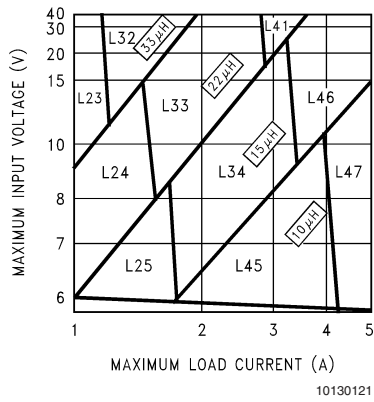
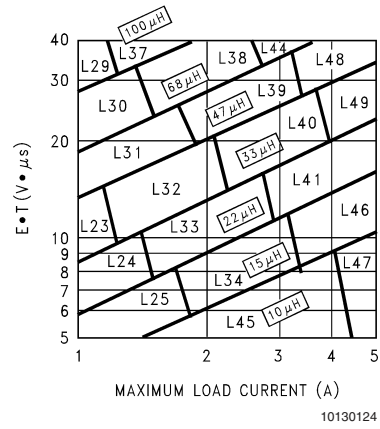

FIGURE 3. LM2677-3.3
FIGURE 6. LM2677-ADJ
Step 3: Determine the inductor required by using one of the four nomographs, *Figure 3* through *Figure 6*. Table 1 provides a specific manufacturer and part number for the inductor.
Step 5: Determine an input capacitor from Table 4 for fixed output voltage applications. Use Table 2 to find the specific capacitor type. For adjustable output circuits select a capacitor from Table 2 with a sufficient working voltage (WV) rating greater than $V_{in\ max}$, and an rms current rating greater than one-half the maximum load current (2 or more capacitors in parallel may be required).
Step 3: Use the nomograph for the 3.3V device, *Figure 3*. The intersection of the 16V horizontal line ($V_{in\ max}$) and the 2.5A vertical line ($I_{load\ max}$) indicates that L33, a 22μH inductor, is required.
Step 3: To use the nomograph for the adjustable device, *Figure 6*, requires a calculation of the inductor Volt•microsecond constant ($E \cdot T$ expressed in $V \cdot \mu s$) from the following formula:
Using Figure 6, the intersection of $27V \cdot \mu s$ horizontally and the $2A$ vertical line ($I_{load} \text{ max}$) indicates that L38, a $68\mu H$ inductor, should be used.
Important Note: When using the adjustable device in low voltage applications (less than $3V$ output), if the nomograph, Figure 6, selects an inductance of $22\mu H$ or less, Table 6 does not provide an output capacitor solution. With these conditions the number of output capacitors required for stable operation becomes impractical. It is recommended to use either a $33\mu H$ or $47\mu H$ inductor and the output capacitors from Table 6.